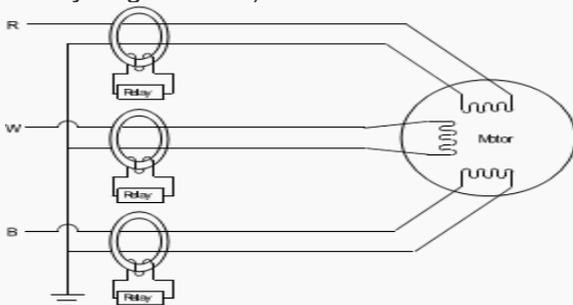

Figure 4 - Single Phase Ground Fault Protection
**Figure 4** shows a similar protection scheme, with each of the windings of the motor protected individually (*this scheme is not normally installed in small motors, but may appear in the protection of very large motors*).